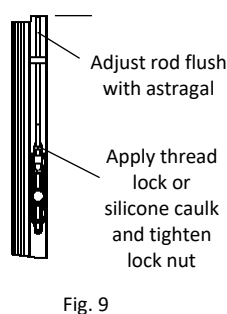

Fig. 9
1. Astragal is notched on both ends. Identify which end will be turned up for either right or left side “stationary door.” (Fig. 7) Notched end of astragal will be toward inside of “stationary” door. After properly identifying position of astragal, measure from top of door to bottom of door and cut astragal accordingly. (Fig. 8) Set both (top and bottom) flush bolts in the open (unlocked) position. Adjust the flush bolts on astragal by turning the top rod so that tip of rod is flush with the top of astragal. Use thread lock or silicone caulk on the lock nut and tighten nut securely on rod. (Fig. 9) Repeat procedure for bottom flush bolt.